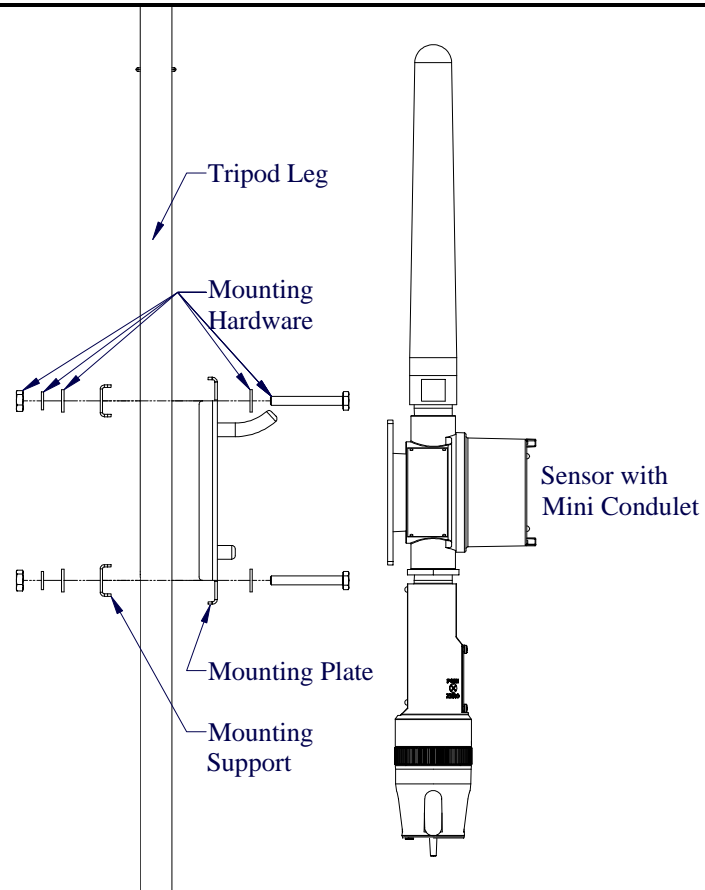

Figure 10 Attach Sensor Brackets to Tripod
5. If sensors are being mounted on the tripod legs, attach the sensor mounting brackets to the tripod legs using the supplied  $\frac{1}{4}$ " bolts, nuts and lock washers in accordance with Figure 10.